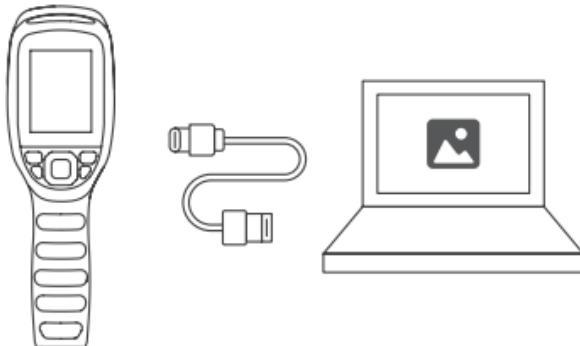

Figure 4.1.1
- 2. Connect TC005 to your computer with the supplied USB cable** (see Figure 4.1.1).